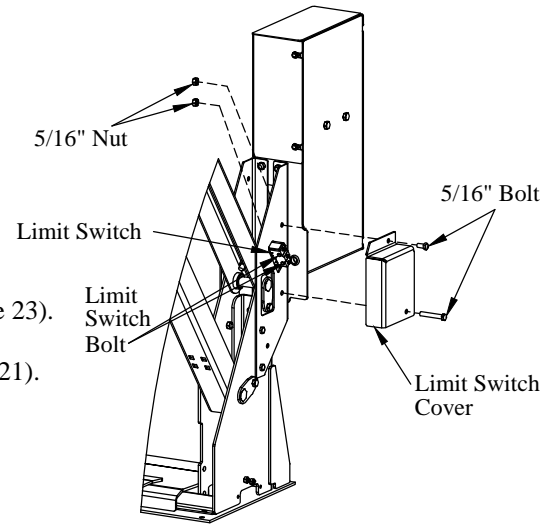

Figure 21: Limit Switch.
5. **Remove** the limit switch cover by removing two (2) 5/16" bolts and nuts (Figure 21).
6. **Loosen** the bolts holding the limit switch (Figure 21).
9. **Install** the limit switch cover with 5/16" bolts and nuts. Be careful not to over tighten the 5/16" bolts (Figure 21).